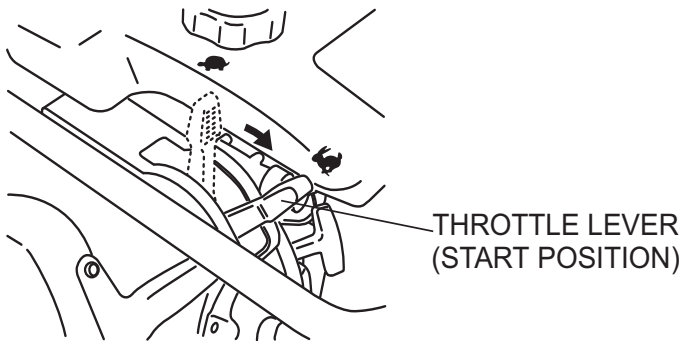

Figure 9. Throttle Lever (Start Position)
1. To start the rammer tamping action, move the throttle lever (Figure 9) **quickly** from **IDLE** to the **START** (👉) position. **DO NOT** move the throttle lever slowly as this may cause damage to the clutch or spring.